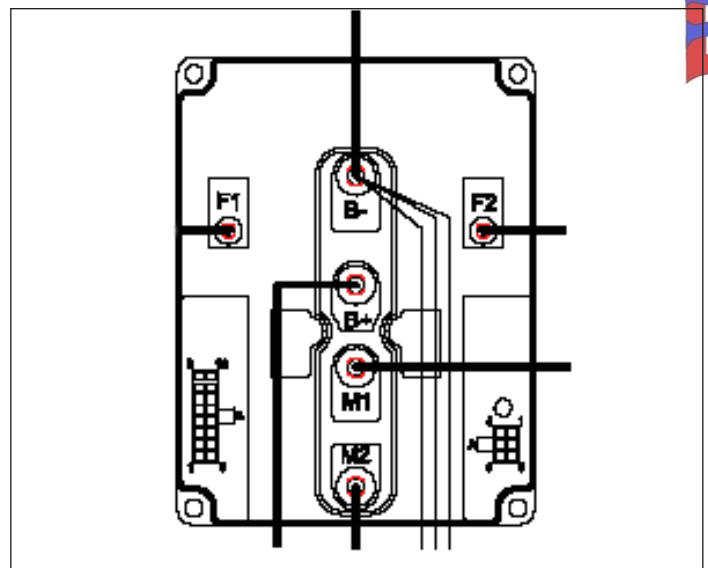

Figure 10-21. 6 Post ACEplus Controller
The ACEplus System is an advanced traction drive system that uses a fully integrated, solid state Sevcon Controller for speed regulation and forward/reverse control. Combined with a separately excited DC motor, the system provides optimized power efficiency through pedal proportional speed control and regenerative braking. This control system is ideal for hilly terrain or areas with multiple ramps. It is also used for towed loads and high braking demands. The ACEplus system is distinguished by a 6 post controller. See Figure 10-21.
- Install cables to controller terminals according to schematic, and to cable identification labels. Make sure there is a flat washer under the terminal ends of the cables. This will spread the load and help prevent the terminal ends from folding over. See Figures 10-21 and 10-22.